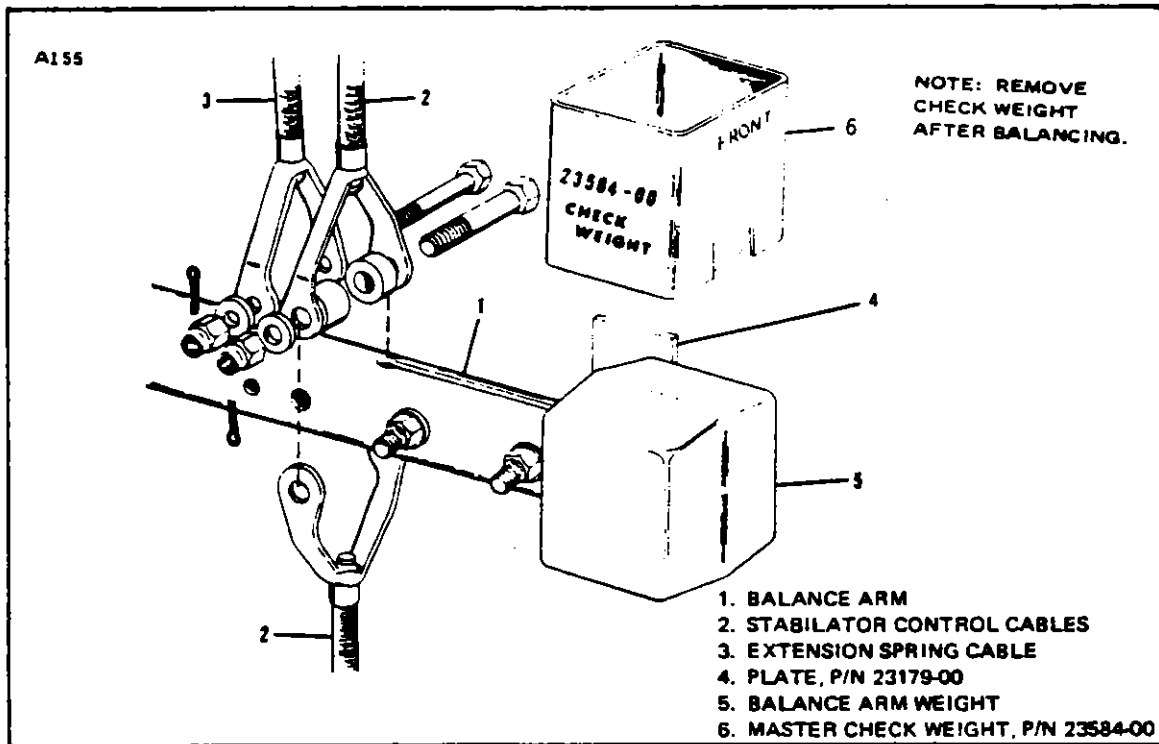

Figure 4-11. Balancing Stabilator. Serial Nos. 30-1 to 30-852 incl., 30-854 to 30-901 incl., 30-1717, 30-1745 to 30-2000 incl.
4-49. CHECKING AND BALANCING STABILATOR. (Serial Nos. 30-1 to 30-852 inclusive; 30-854 to 30-901 inclusive; 30-1717; 30-1745 to 30-2000 inclusive.) (Refer to Figure 4-11.)
c. Master check weight (6) (P/N 23584-00) (weight 1.58 pounds) should be placed on top of balance weight (5) (P/N 23594-00) with the side marked "FRONT" facing forward. (Refer to Figure 4-11.) If this is not enough weight to obtain static balance with the balance arm level, plates (4) (P/N 23179-00) must be added to the forward balance weight attaching bolt until 100% static balance is obtained or until up to two plates more than that required for balance have been added. Generally, it should not be necessary to use more than eight plates. If a total of more than eight plates is necessary to obtain balance, recheck the procedure in steps "b" and "c".
c. Master check weight (P/N 23584-00) (weight 1.58 pounds) should be placed on top of balance weight (5) (P/N 23594-00) with the side marked "FRONT" facing forward. (Refer to Figure 4-11.) If this is not enough weight to obtain static balance with the balance arm level, plates (4) (P/N 23179-00) must be added to the forward balance weight attachment bolt until 100% static balance is obtained or until up to two plates more than that required for balance have been added. Generally, it should never be necessary to use more than eight plates. If a total of more than eight plates is necessary to obtain balance, recheck the procedure in steps "b" and "c."